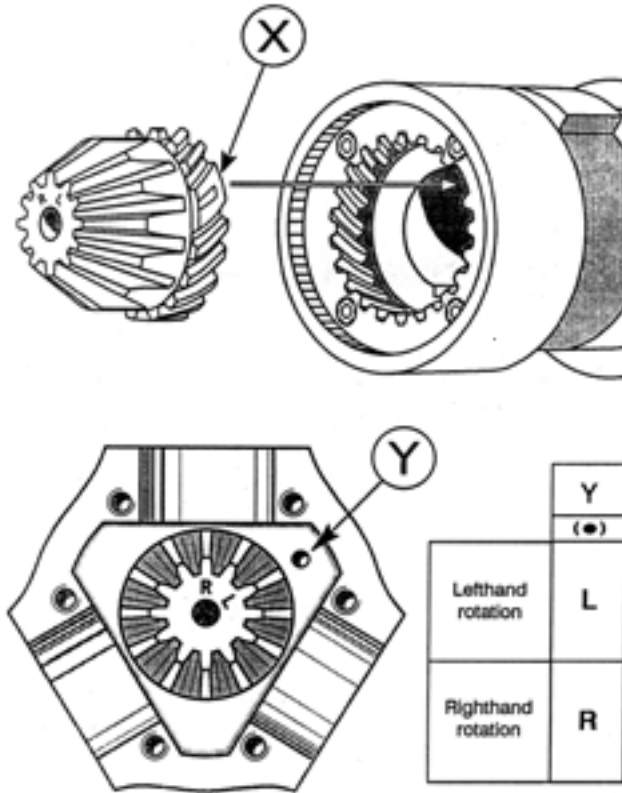

Fig. 3
- 3) **ASSEMBLY:** Make sure that if you receive more than one propeller that you do not interchange parts. Each propeller is individually balanced and if interchanged it will be put out of balance. Please use figure 3 in the instruction book for part number references.
- E)** Locate the mark on the top inside of the spinner (a small drill hole). This is the “Y” mark in fig. 3. Rotate the spinner until the “Y” mark on the spinner coincides with the correct letter on the top of the cone gear. “R” is for a right hand rotation shaft and “L” is for a left hand rotation shaft. (Shaft rotation is determined from the stern of the boat looking forward).